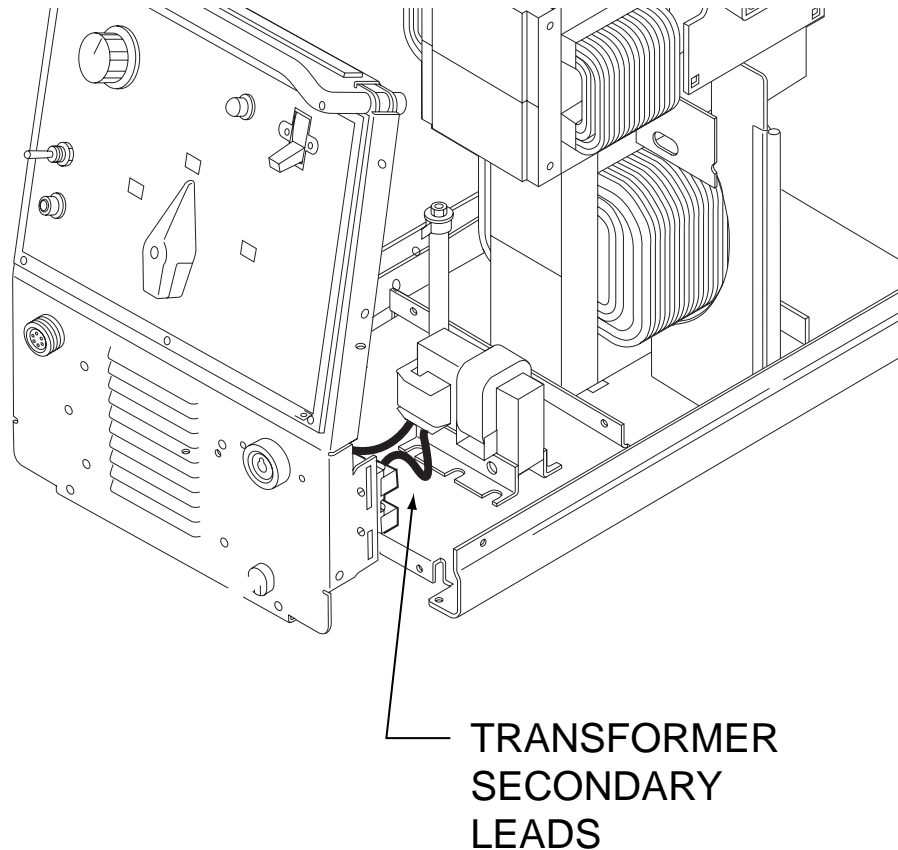

FIGURE F.11 SECONDARY LEADS AT HIGH FREQUENCY STARTER BOARD
3. With the needle nose pliers remove the two secondary leads from the quick-connects on the high frequency arc starter board assembly. See Figure F.11.